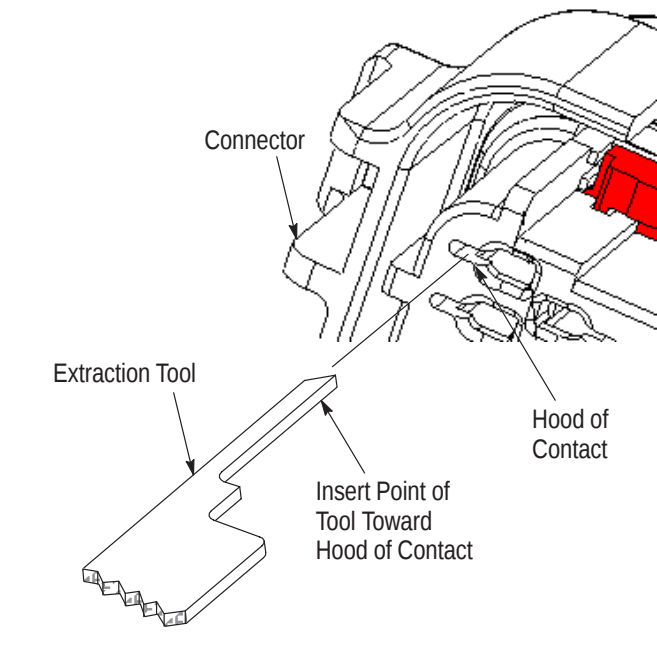

Figure 10
- a. Insert the tip of the extraction tool in the slot along side of the terminal hood, with the point of the tool toward the terminal hood. See Figure 10.
- Added new Figure 10